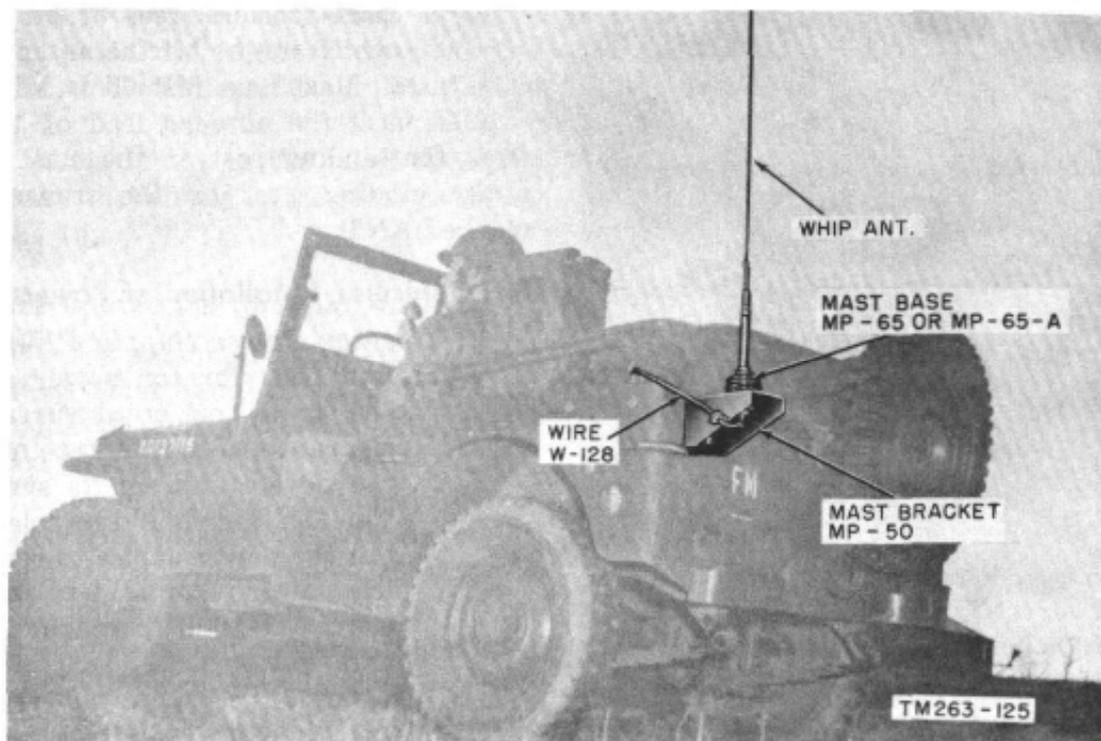

Figure 39. Typical installation of vehicular antenna.
*a.* Select a location in which the controls will be accessible to the operator, and which is close to the position chosen for the antenna (fig. 39).
a. The vehicular antenna consists of five mast sections (three Mast Section MS-116 or MS-116-A, one Mast Section MS-117 or MS-117-B, and one Mast Section MS-118 or MS-118-A). Mast Base MP-65 or MP-65-A and Mast Bracket MP-50 or other appropriate brackets are required to secure the antenna to the vehicle (fig. 39).